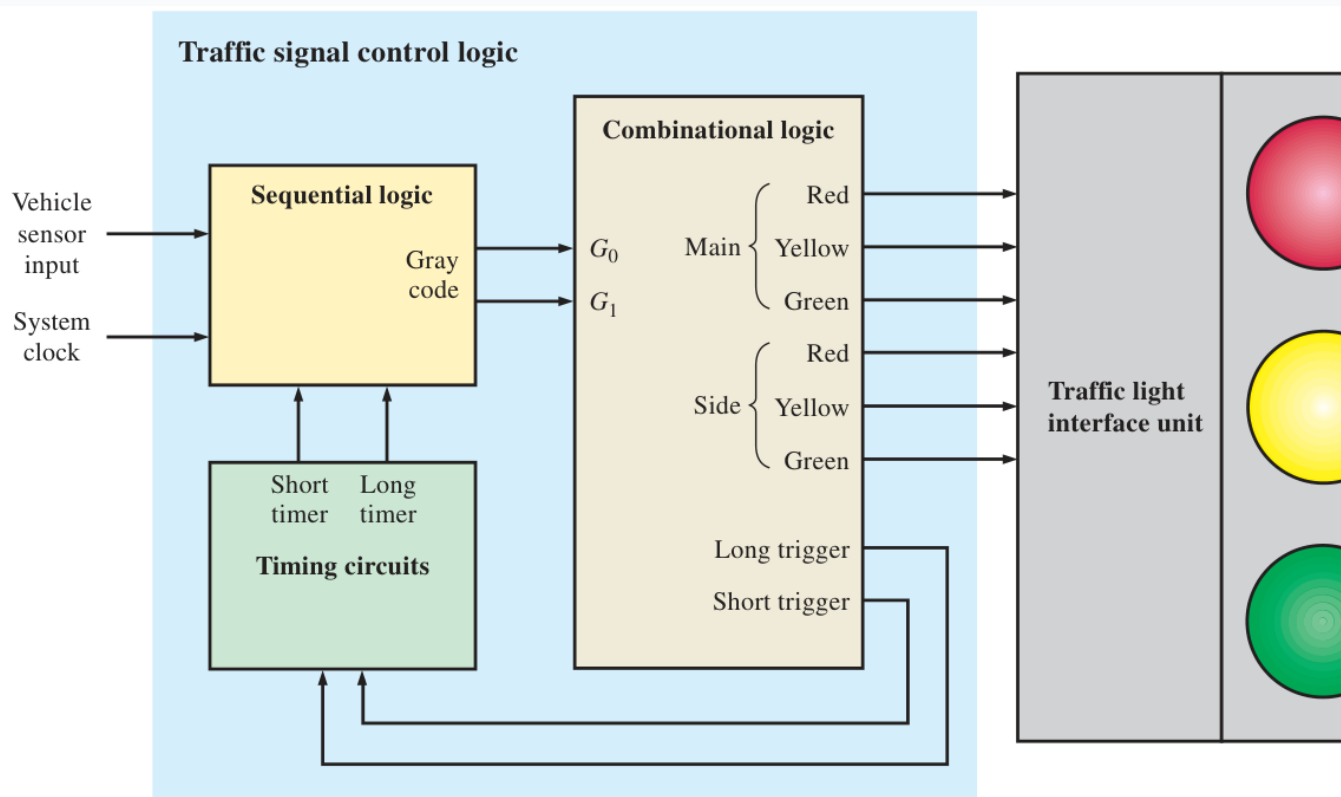

FIGURE 3 Block diagram of the traffic signal control system.
2. System Architecture & Block Diagram (Floyd, p. 324, Figure 3)
Figure 3 from **Floyd** reveals the complete three-part system decomposition: 1. **Sequential Logic (The State Counter)**: A 2-bit Gray-code counter that sequences through states 00 to 01 to 11 to 10 based on inputs from the vehicle sensor and timers. 2. **Timing Circuits**: A 25 s long timer (T_L) and a 4 s short timer (T_S), triggered by transitions between states. 3. **Combinational Output Logic**: Decodes the 2-bit Gray code into six physical lamp driving signals: Main Red (MR), Main Yellow (MY), Main Green (MG), Side Red (SR), Side Yellow (SY), and Side Green (SG).